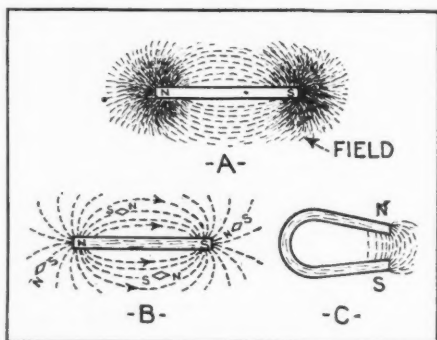

FIGURE 2
Since the amount of current available for the operation of an output meter is often very small, it is advantageous to use a rectifier type of instrument. If a low-range d.c. milliammeter of the D'Arsonval type is available, it can readily be converted into a rectifier type output meter by connecting it (as shown in Figure 2) to an old rectifier unit taken from a trickle charger such as the National or Elkon. These chargers have three units, although one is sufficient for our purposes. The connections and schematic circuit of the rectifier are shown in Figure 1. The meter could, of course, be calibrated
to it, center to center, as shown in Figure 2 (b, c). Holes should be drilled in the bakelite disc for the wires at each prong.
If fine iron filings are sprinkled over a piece of thin paper placed on a magnet, they will arrange themselves in definite lines around the magnet as shown in (A) of Figure 2. These lines mark out the general direction of the magnetic force around the magnet. If a short magnetic compass needle is moved around in the field of the magnet, it will set itself in the direction of the magnetic force acting at any point in the field at which it is placed, as shown at (B) of Figure 2. Thus the complete field around a magnet may be plotted either by means of iron filings or a short compass needle, even though the magnetic forces are themselves invisible. The magnetic maps or figures obtained in this way are often of great service in showing the actual distribution of the magnetic field in a magnetic device. Thus the intensity and directions of the fields around power transformers and choke coils in electric radio receivers may be easily studied by these methods. The strength of the magnetic field at any point is expressed in terms of lines of force per square inch at the point considered. This is called the *flux density*.